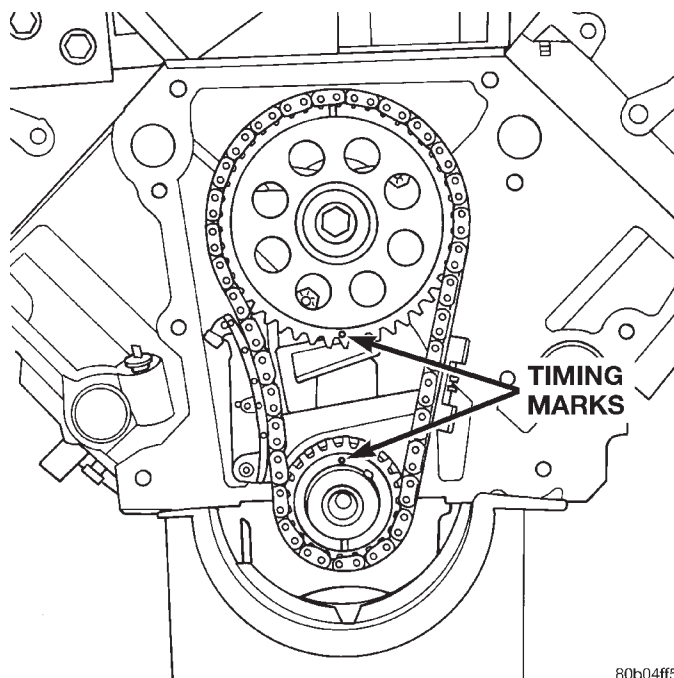

Fig. 30 Alignment of Timing Marks
(1) Disconnect battery negative cable.
(2) Drain cooling system. Refer to Group 7, Cooling System for the correct procedure.
(3) Remove timing chain cover. Refer to procedure in this group.
(4) Rotate crankshaft to align timing marks (Fig. 30) to #1 TDC.
(5) Remove camshaft sprocket attaching bolt and remove timing chain with crankshaft and camshaft sprockets.
(1) If tensioner assembly is being replaced, install tensioner and mounting bolts. Torque bolts to 24 N·m (210 in. lbs.).
(2) Place both camshaft sprocket and crankshaft sprocket on the bench with timing marks on an exact imaginary center line through both camshaft and crankshaft bores.
(3) Place timing chain around both sprockets.
(4) Lift sprockets and chain (keep sprockets tight against the chain in position as described).
(5) Slide both sprockets evenly over their respective shafts and verify alignment of timing marks (Fig. 30) with a straight-edge if necessary.
(6) Install the camshaft bolt. Tighten the bolt to 68 N·m (50 ft. lbs.) torque.
(8) Install timing cover.
(9) Fill cooling system. Refer to Group 7, Cooling System for the correct procedure.
(10) Connect battery negative cable.
(11) Start engine and check for oil and coolant leaks.